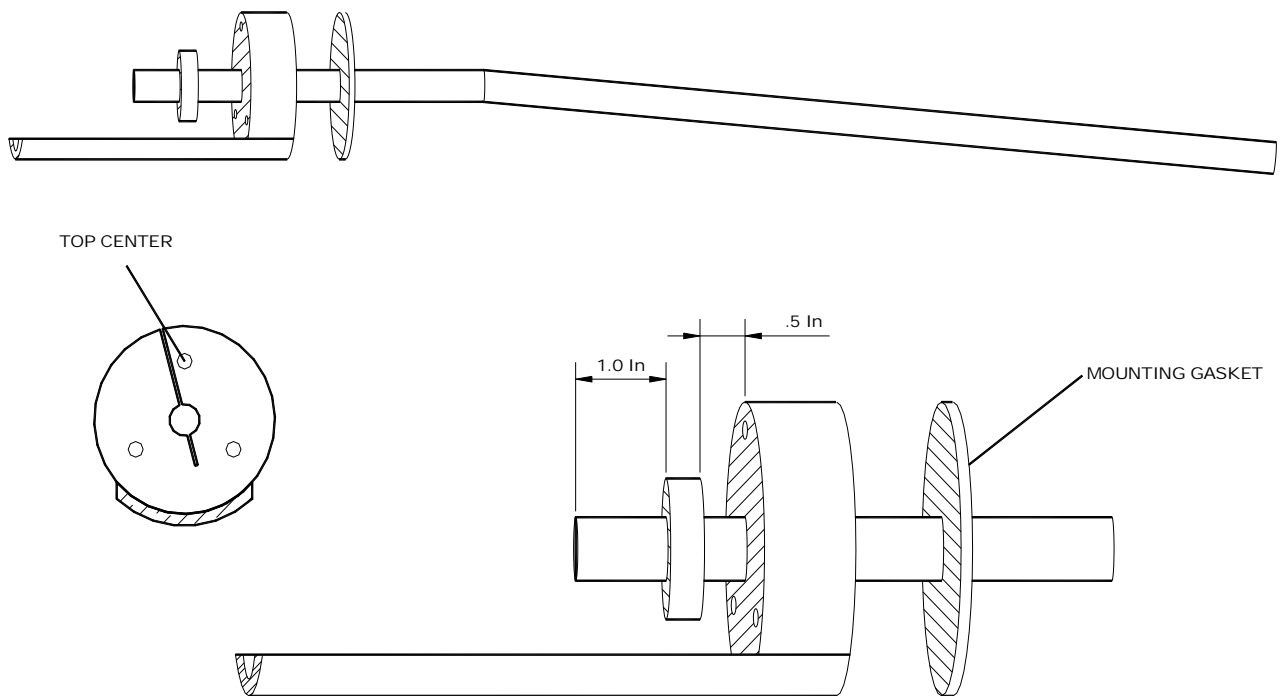

Figure 3.3 Probe Barrel Assembly
- A) Inspect the probe barrel assembly for proper flange spacing and orientation (factory set): please see Figure 3.3 on the following page.
- D) Insert the three (3) supplied 1/4-20 X 1-3/4 inch bolts through the probe mounting flange into the threaded holes, and tighten.